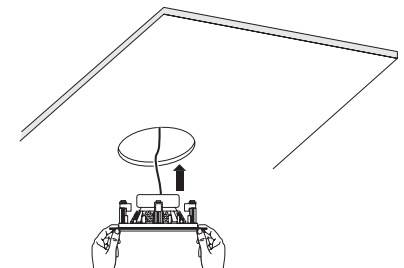

Figure 7
6. Slide speaker through pre-cut hole and MTB-6.5 bracket, see Figure 7. Using low clutch setting on driver, tighten dog-ears until they pinch bracket and tile together firmly. DO NOT over-tighten as this may pull screws through speaker frame and/or cause warping of frame and difficulty installing speaker grille. If hand tightening do so just until firm. Install speaker grille. To ensure grille stays in place long-term use provided material.